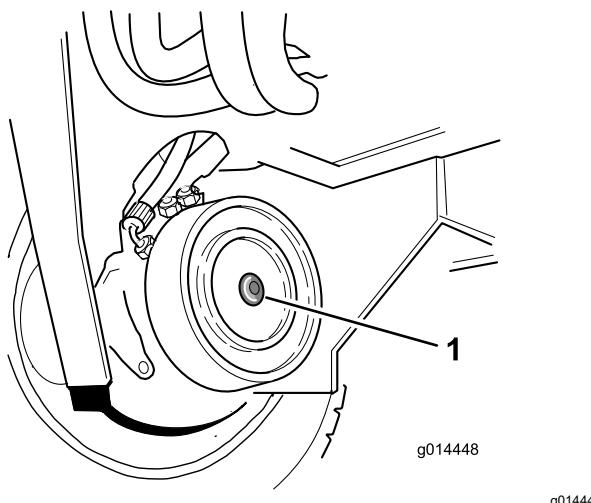

Figure 36
2. Identify the right-hand front wheel motor disc brake assembly and remove the hex plug (Figure 36).